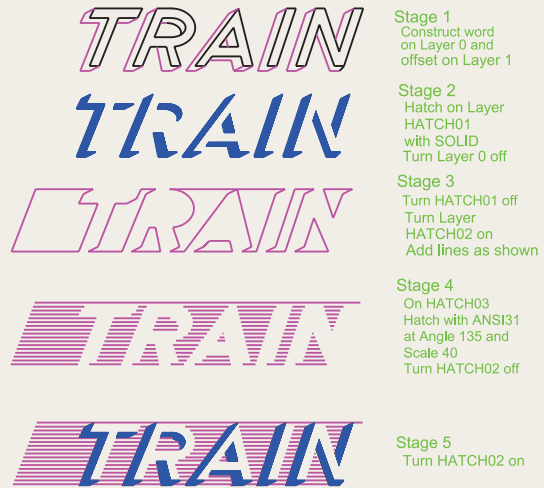

Fig. 8.22 Exercise 3
- Construct the drawing **Stage 5** following the descriptions of stages given in Fig. 8.22.
- Construct Fig. 8.22 as follows: